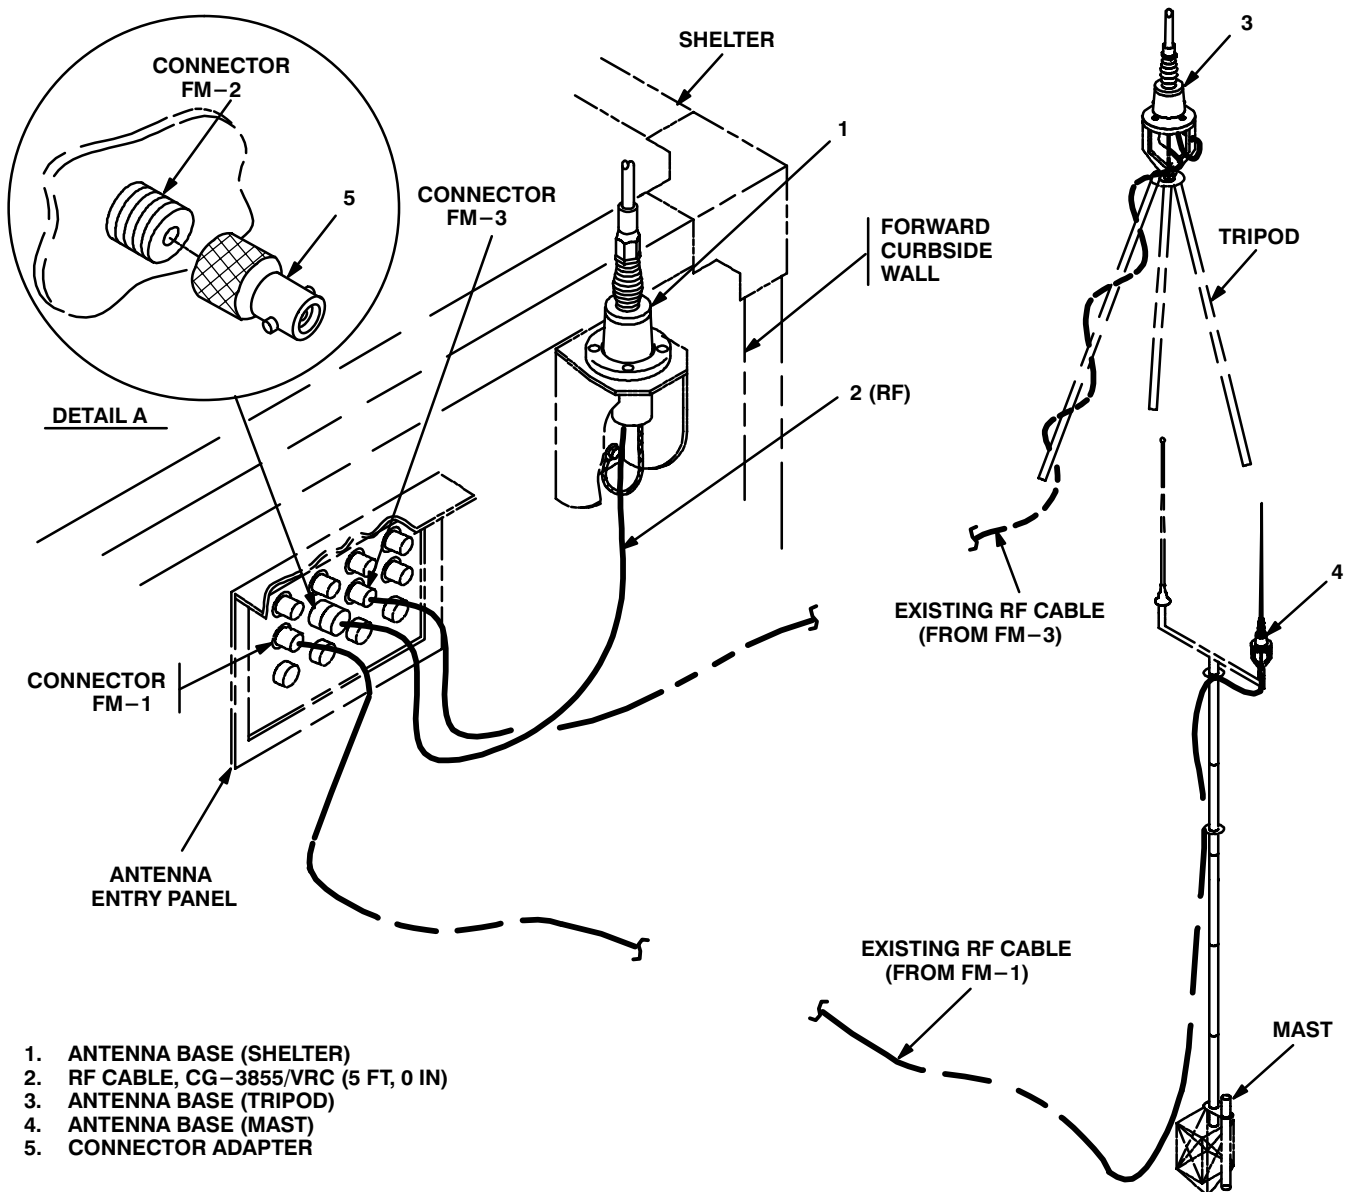

Figure 5-5 (1). Cable Installation: Exterior Cabling
a. RF cable (2) connector P1.	Connect and secure to antenna base (1) connector J1. See figure 5-5 (1).
b. Connector adapter (5).	Connect and secure to antenna entry panel connector FM-2. See Figure 5-5 (1), detail A.